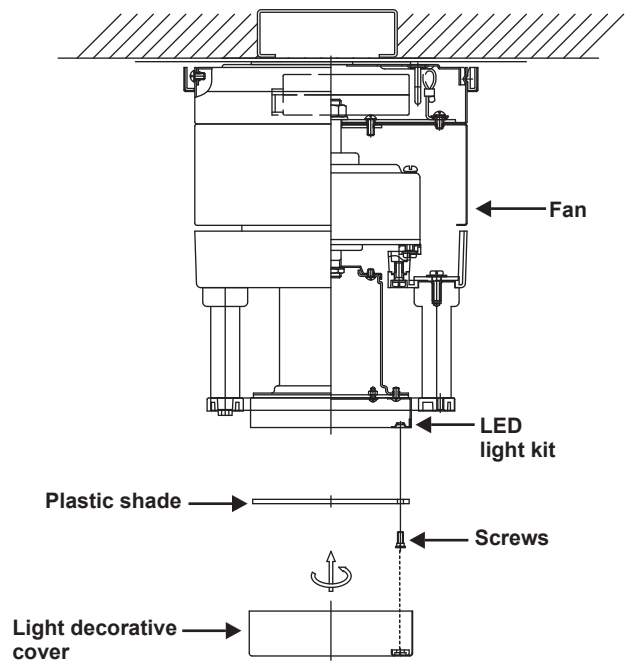

Figure 12
1. Attach the plastic shade to the LED light kit with the 2 screws provided. (Fig. 12)
3. Raise light decorative cover up against the LED light kit and secure it to the fan by turning the light decorative cover clockwise until snug. DO NOT OVERTIGHTEN. (Fig. 12)